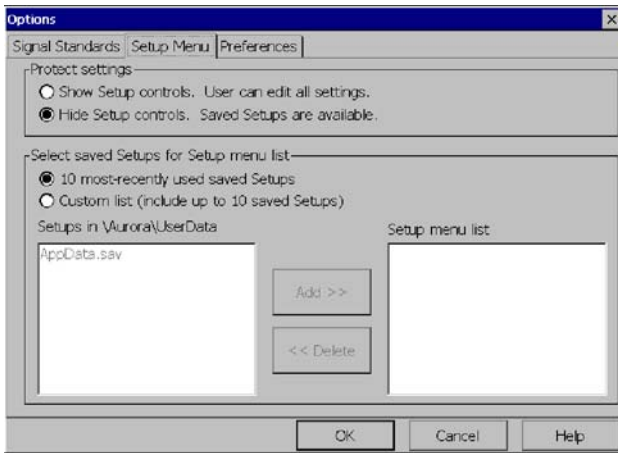

Figure 3-74: Protecting Setup Controls
2. Tap the **Setup Menu** tab. See Figure 3-74.
2. Select the **Setup Menu** tab. See Figure 3-74.